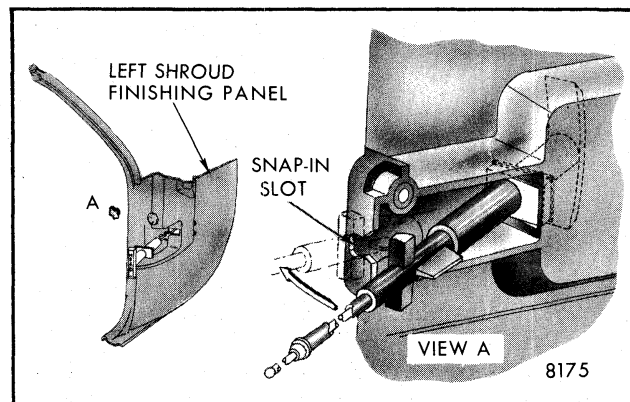

Fig. 4-16-Hood Latch Release Cable
The rear section of hood latch release cable includes pull handle, control cable and housing. The control cable is installed through the left shroud side finishing panel (Fig. 4-16). A sealing grommet at dash panel completes the assembly.
4. Disengage control assembly housing from snap-in slot of finishing panel (Fig. 4-16) and remove